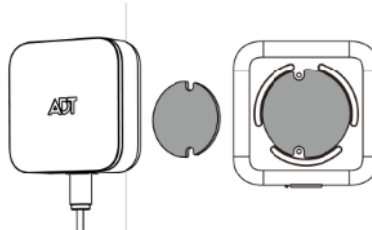

Figure 9
5. Once Water probes are in position, use the included adhesive pad to secure the main unit to a clean, dry surface. (Figure 9)